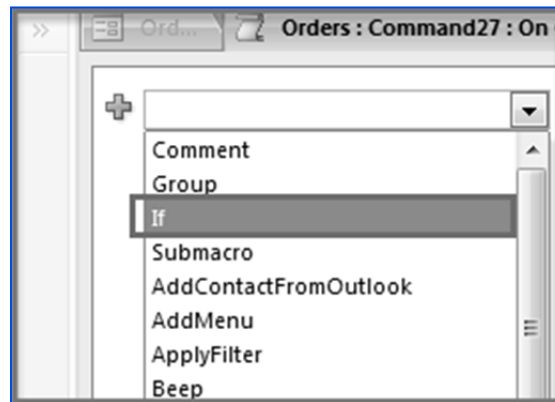

Fig. 4.2.30: Add Condition
6. In the *Macro Designer* window that appears, add the conditions from selecting *If* from *Add New Action Menu* as displayed in Fig. 4.2.30.